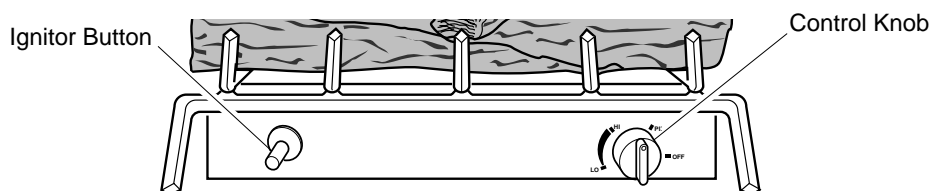

Figure 19 - Control Knob and Ignitor Button Location
4. Wait five (5) minutes to clear out any gas. Then smell for gas, including near the floor. If you smell gas, **STOP!** Follow "B" in the safety information in column 1. If you don't smell gas, go to the next step.
5. Slightly depress and turn control knob counterclockwise  to the PILOT position. Keep control knob pressed in for five (5) seconds (see Figure 19).